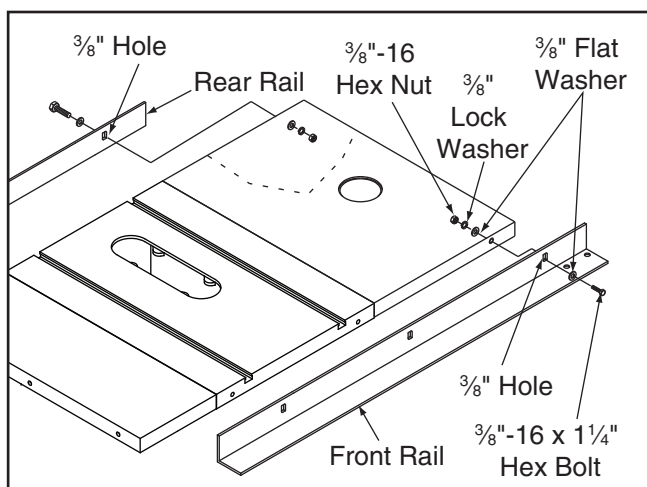

Figure 8. Example of mounting router table to rails.
6. Use (2) $\frac{3}{8}$ "-16 x $1\frac{1}{4}$ " hex bolts, (2) $\frac{3}{8}$ " lock washers, (4) $\frac{3}{8}$ " flat washers, and (2) $\frac{3}{8}$ "-16 hex nuts to secure the router table to the front/rear fence rails, as shown in **Figure 8**.
Note: If your rails do not have mounting holes to accommodate the router table, you may need to drill holes in your fence rails to allow the router table to be fastened, as shown in **Figure 8**.